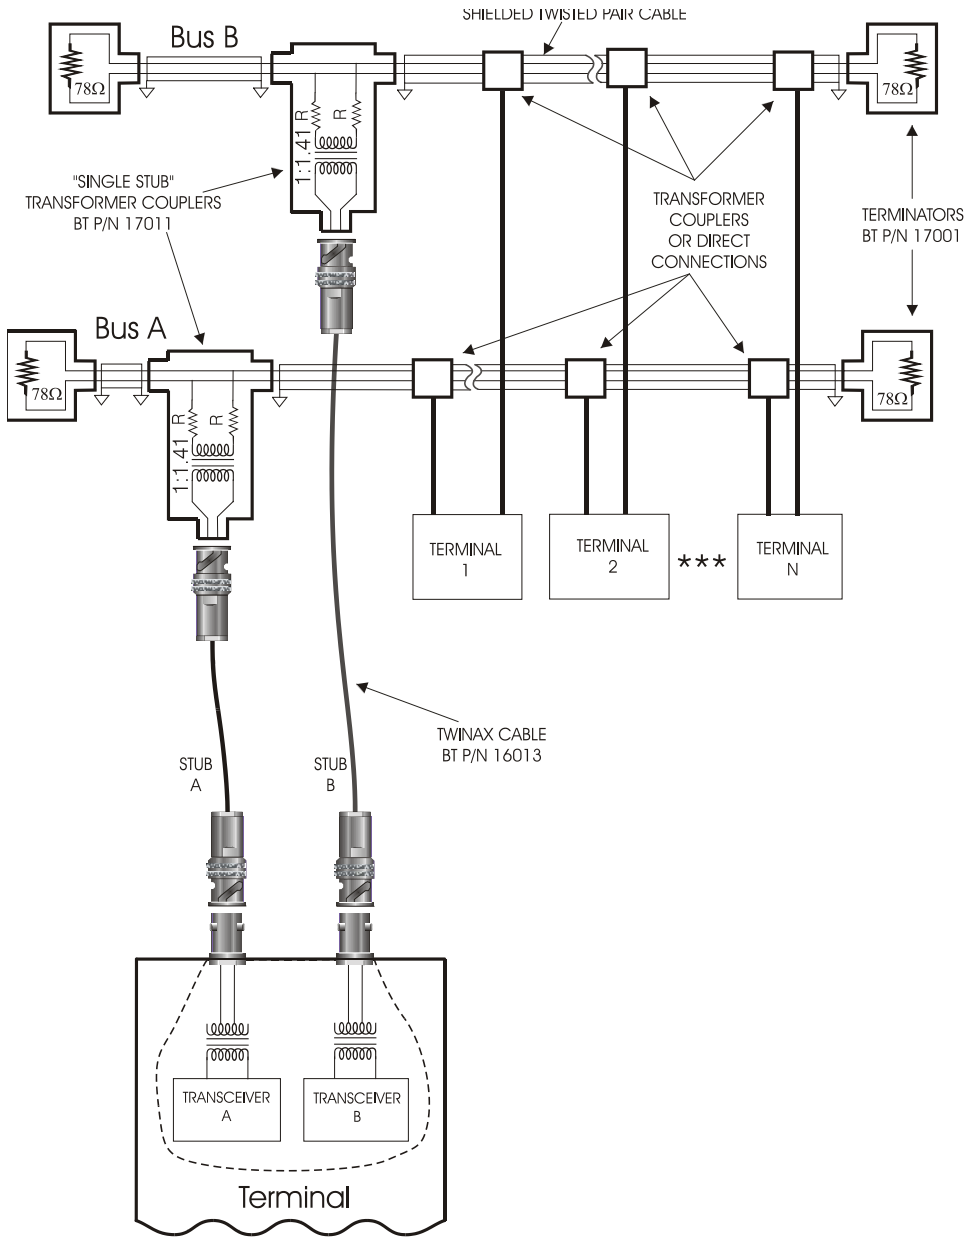
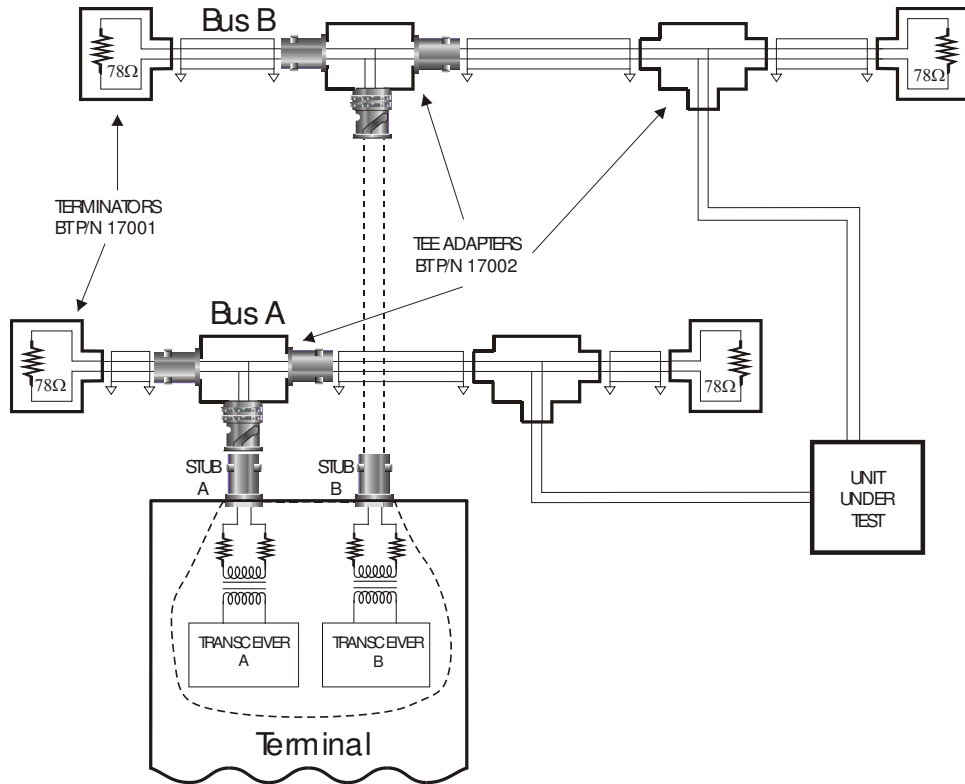

Figure A.1—Transformer Coupling to a Dual-Redundant Databus
Figure A.2—Direct Connection to a Dual-Redundant Databus
The main databus consists of a pair of twisted, shielded wires with a characteristic impedance in the range of 70 to 85 Ω . Terminate the databus at both ends with a resistor to provide proper loading and to minimize signal reflection and degradation on the bus. The resistor value should be close to the characteristic impedance of the databus. The resulting total load on the databus is the two terminating resistors in parallel (about 39 Ω). Even with a very short databus, the load from the terminating resistors is still required. Notice how the resistors terminate the databuses in Figure A.1—Transformer Coupling to a Dual-Redundant Databus and Figure A.2—Direct Connection to a Dual-Redundant Databus.
- The transformer-coupled terminal has a lower turns ratio and no isolation resistors, but this is made up for in the external coupler, which has a step-up transformer and isolation resistors (see Figure A.1—Transformer Coupling to a Dual-Redundant Databus).
- The direct-coupled terminal has a higher turns ratio and has isolation resistors that you can connect directly to the main databus. Keep direct-coupled stubs as short as possible (see Figure A.2—Direct Connection to a Dual-Redundant Databus).